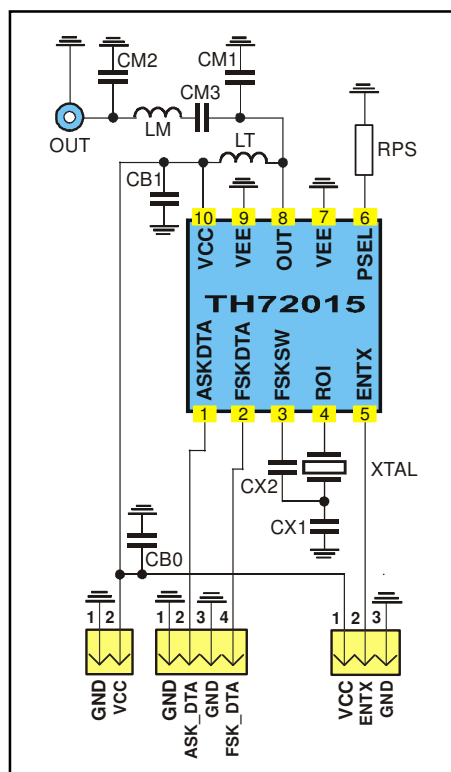

Fig. 18: Test circuit for FSK and ASK with 50 Ω matching network
typical values at $T_A = 23\text{ }^{\circ}\text{C}$ and $V_{CC} = 3\text{ V}$; test circuit shown in Fig. 18, $f_c = 433.92\text{ MHz}$
- Data according to test circuit in Fig. 18
6.1 Test circuit component list to Fig. 18